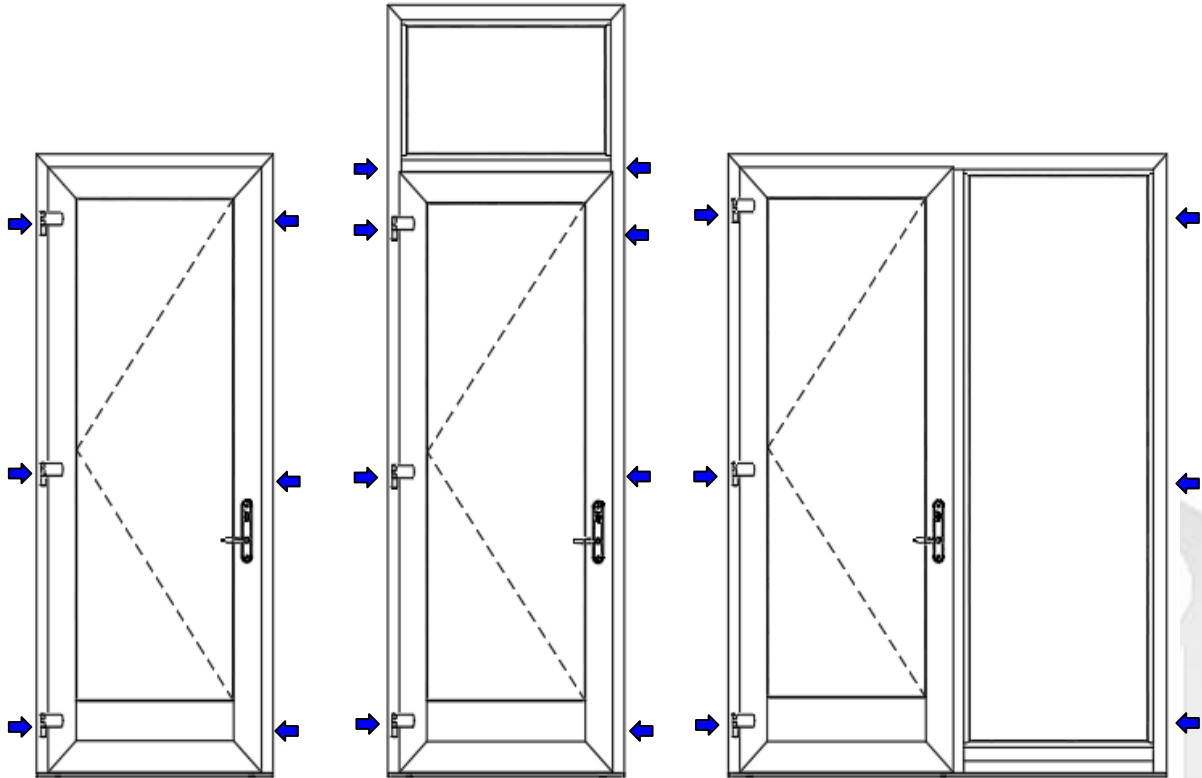

Figure 10: Jamb Shim Locations
B) *Figure 10* illustrates all required jamb shim locations. These are placed at and across from all hinged points, and horizontal intermediate bars. The frame system must be square/plumb and free of any twisting. It is the installers' responsibility to address any rough opening issues that impact proper installation.
- I) Install shims at the jamb locations indicated in figure 10. Shims are required to correctly install the door and prevent distortion or twisting of the frame. Failure to install shims as required will void the warranty.